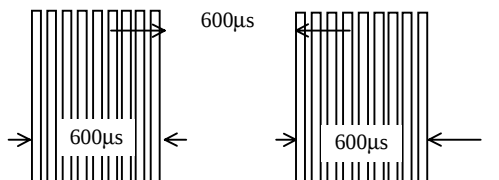

Fig 1. Burst Wave
(1) Measuring placeIndoor without extreme reflection of light.
(2) Ambient light source... Detecting surface illumination shall be 200 ± 50 Lux under ordinary hite fluorescence lamp of no high frequency lighting.
(3) Standard transmitter ... Burst wave indicated in Fig 1. of standard transmitter